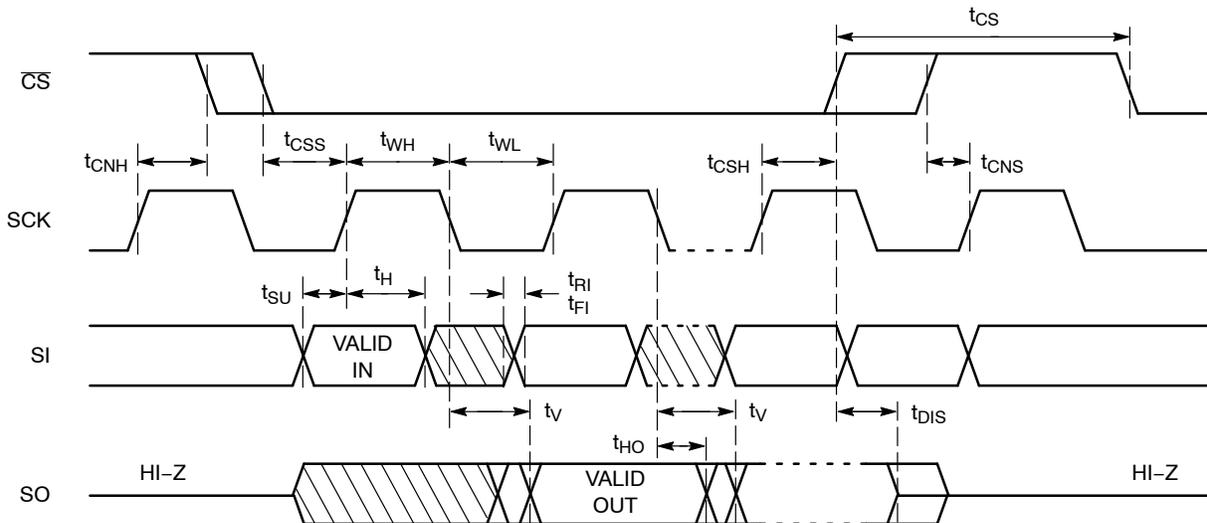

Figure 2. Synchronous Data Timing
7. **All Chip Select (CS) timing parameters are defined relative to the positive clock edge (Figure 2). t_{CSH} timing specification is valid for die revision C and higher. The die revision C is identified by letter "C" or a dedicated marking code on top of the package. For previous product revision (Rev. B) the t_{CSH} is defined relative to the negative clock edge.**
After a high to low transition on the \overline{CS} input pin, the CAT25320 will accept any one of the six instruction op-codes listed in Table 7 and will ignore all other possible 8-bit combinations. The communication protocol follows the timing from Figure 2.